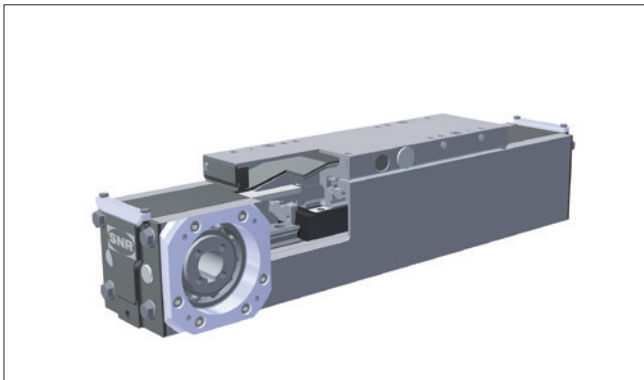

Figure 5.4 \_\_\_ AXF with toothed belt drive
- 2 drive versions – toothed belt drive or screw drive (Figures 5.4 and 5.5)